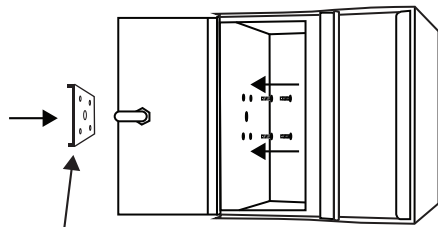

Figure 3
- 1 Place Mail Vault (A) on it's side on a clean surface, lay down soft cloth if necessary to avoid scratches.
- 2 Locate the (4) 1/4 hex head bolts, the 4x4 adapter plate, along with the smaller Allen wrench. Hold Plate up to the bottom side of mail vault and match up the center mounting holes. Ensure flat side of adapter plate is up against the bottom side and the adapter plates raised edges are facing out.
- 3 Begin threading the first hex head bolt through one of 4 mounting holes from the inside/bottom of the mail vault . Repeat with other bolts and tighten down firmly using Allen wrench. (See Figure 3)